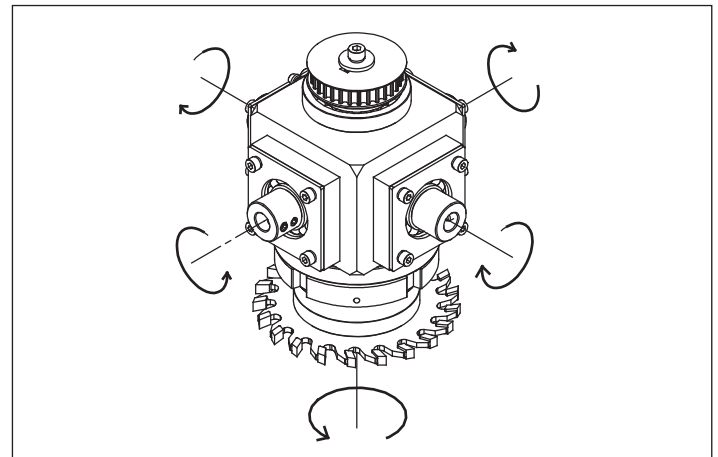

Fig. 3.2.1
3.2.1 Tool rotation direction (see Fig.3.2.1)